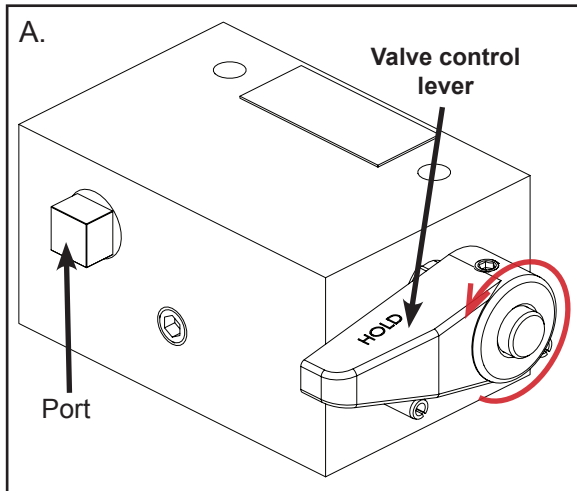

Figure 2
## 2. 2-Position, 2-Way Manual Valve Used With Single-acting Cylinder (Figures 2 & 3)
- To HOLD pressure, turn the valve control handle counterclockwise (CCW), (See Figure 2)